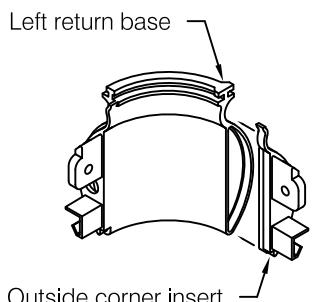

fig 7
- Step 6:** The outside corner base consists of a "left return" mold and an insert which is pressed into the opening of the primary mold at the factory. If this friction fit assembly loosens during shipment, press fit the insert to form an outside corner as shown in **fig 7**.